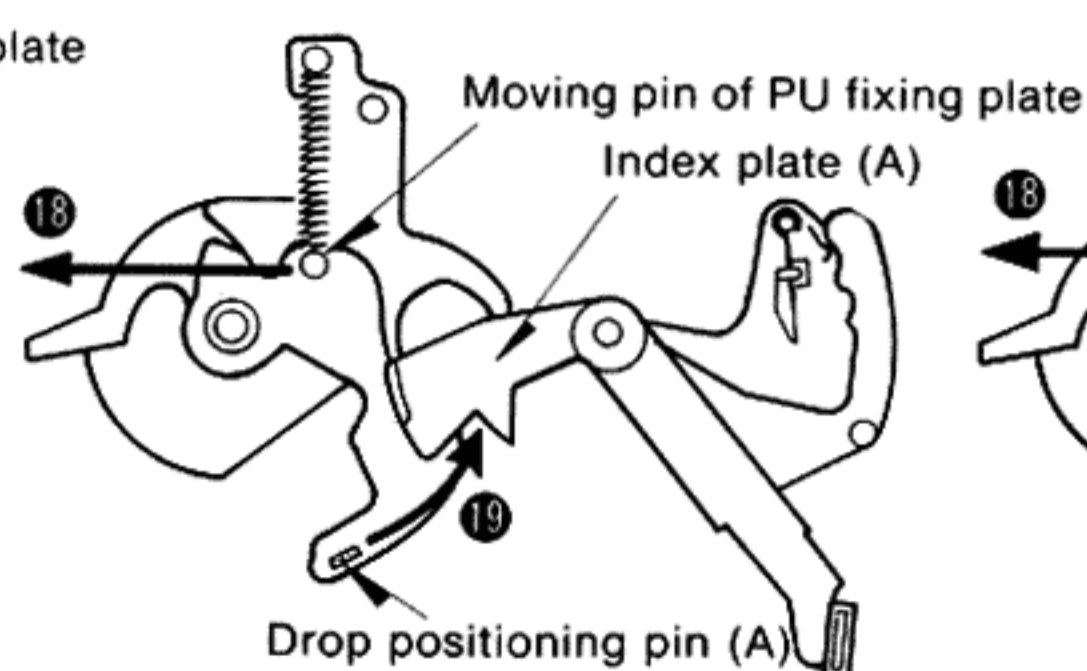

Fig. 7
| | | <ul style="list-style-type: none"> ★ In case of 17 cm record The PU fixing plate rotates until drop positioning pin (A) contacts index plate (A). ★ In case of no record The PU fixing plate does not rotate since drop positioning pin (B) is touching index plate (A). | 269° ~ 317° | Fig. 7 Fig. 8 |